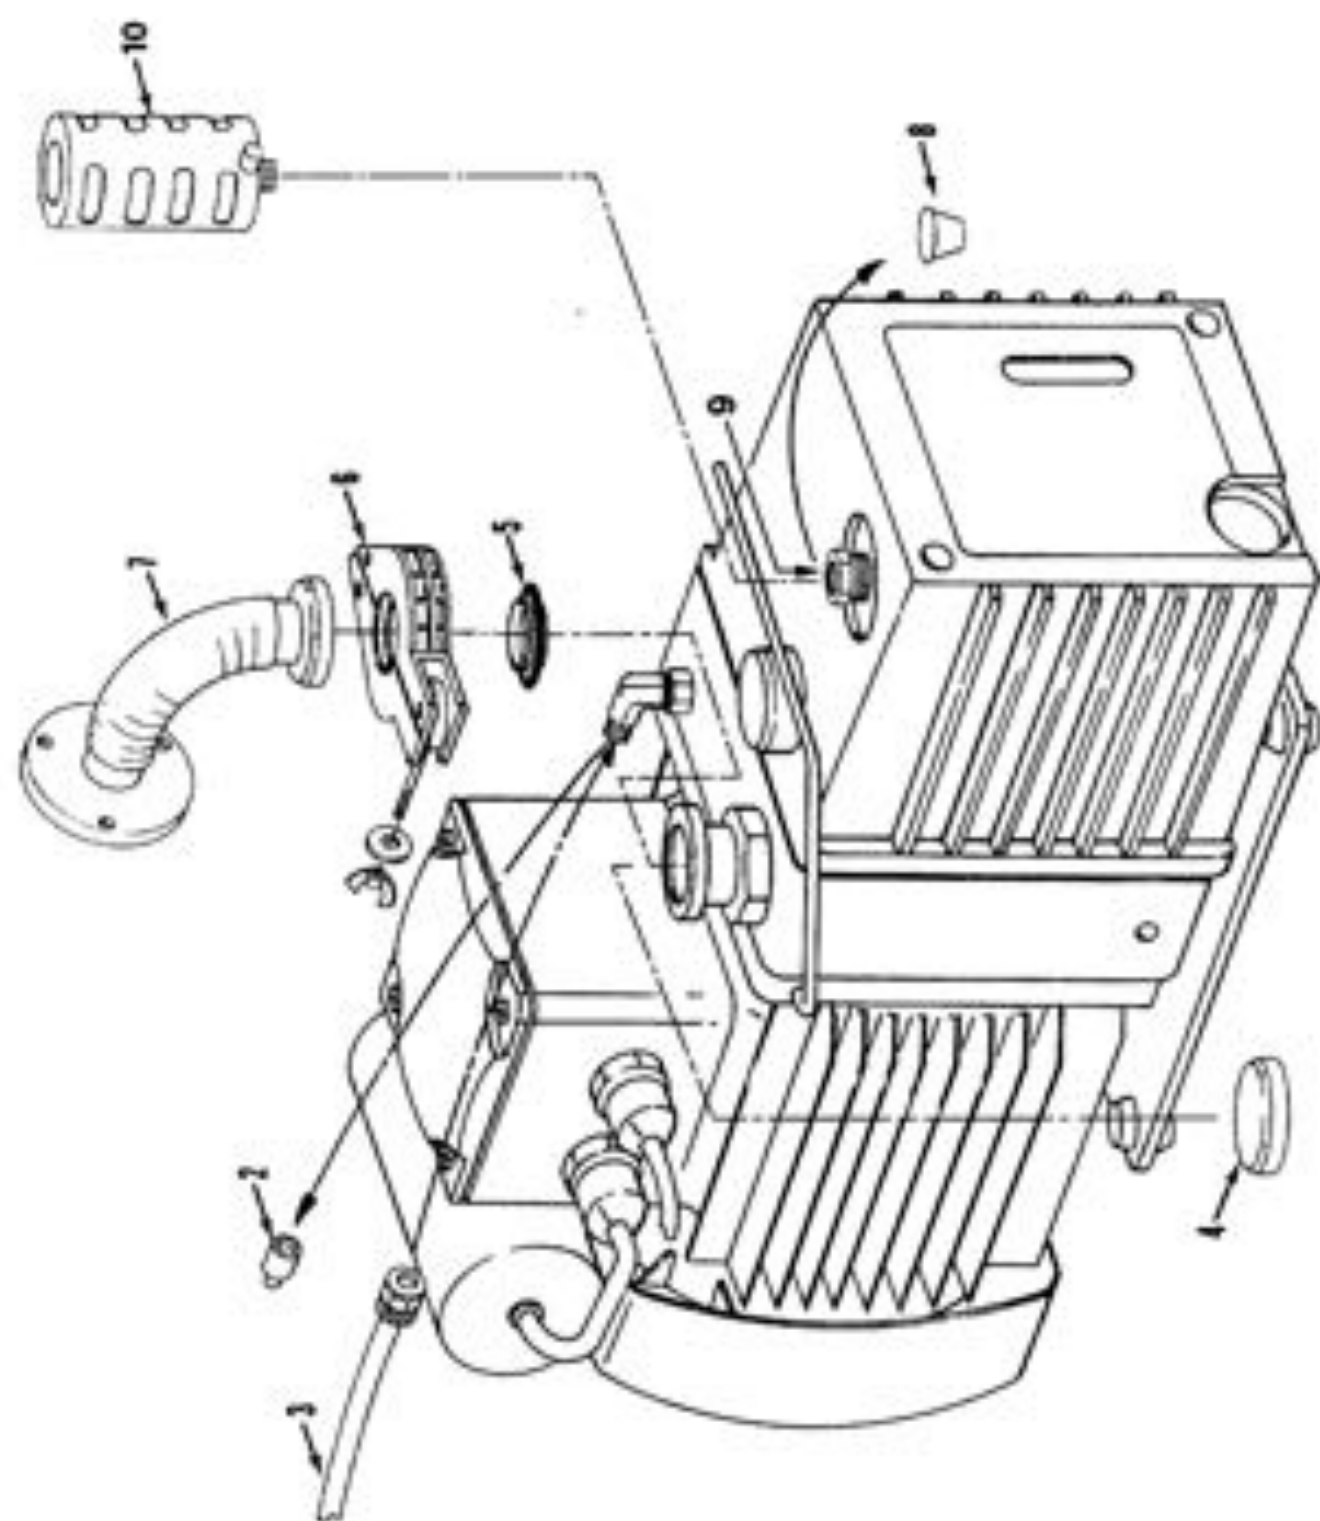

Figure 1-2
The Spectron 600T is shipped without oil in the internal roughing pump, which must be filled prior to use (see the Edwards 600D manual addendum for shipping information specific to the 600D Dry Leak Detector). In addition, to protect the pump during shipment, it is fitted with two blanks that cover its intake and filter connections. Remove these blanks and attach the flex hosing and filter (refer to Figure 1-2 for a diagram illustrating the proper installation for the hose and filter connections). Attach the flex hosing with the provided centering ring and clamp, and thread the exhaust filter into the adaptor on the pump (item 9). Also, the unit's purge tubing (refer to Figure 1-2) is fitted with a 1/4" ferrule blank. Unscrew the blank and reattach the tubing as indicated in Figure 1-2.
Parts List for Figure 1-2: